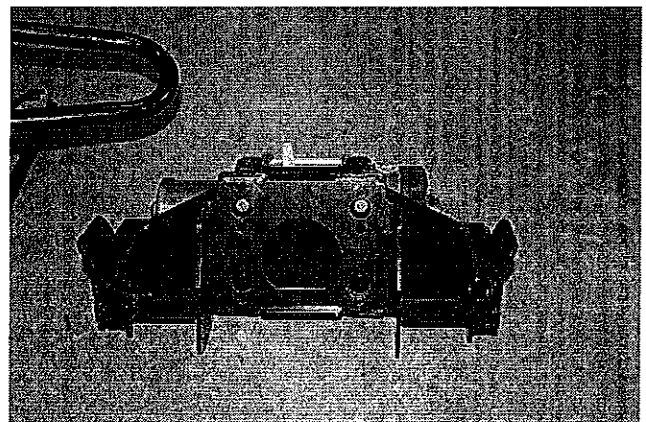

Figure 3
5. Bolt winch to plow mount (A1) as shown in figure 3. Refer to winch installation manual.